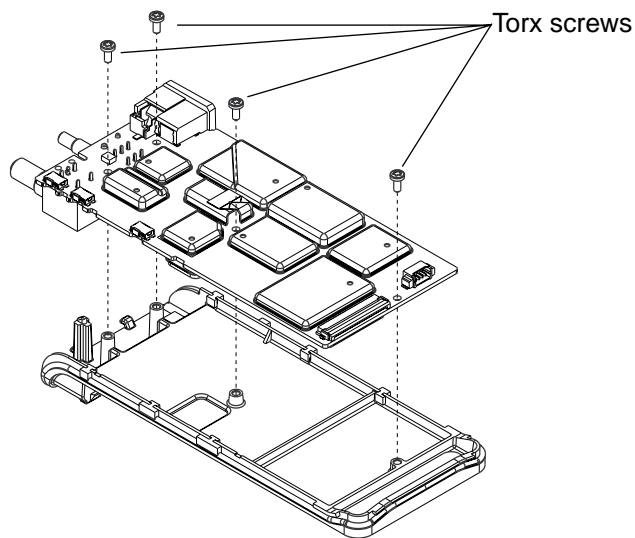

Figure 3-2. UHF/VHF Circuit Board Removal and Reinstallation
1. Refer to the Basic Service Manual (see Section 1 - Related Documents) for radio disassembly, then use a Torx driver and a T-6 bit to remove the four Torx screws shown in Figure 3-2.